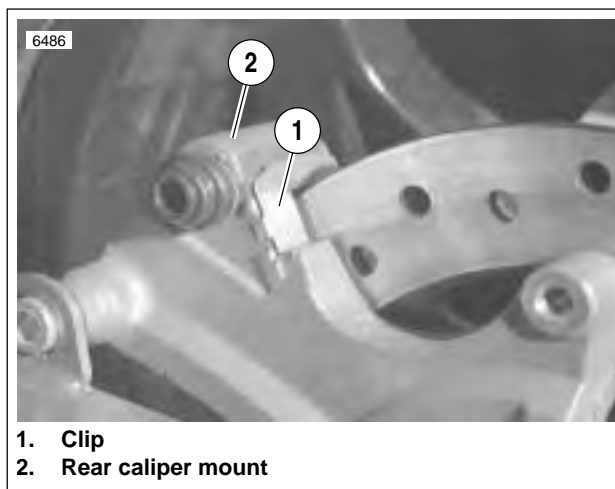

Figure 2-55. Caliper Mount Clip
4. See Figure 2-55. Remove clip (1) from rear caliper mount (2) if necessary.
2. See Figure 2-55. Remove clip (1) from caliper body.